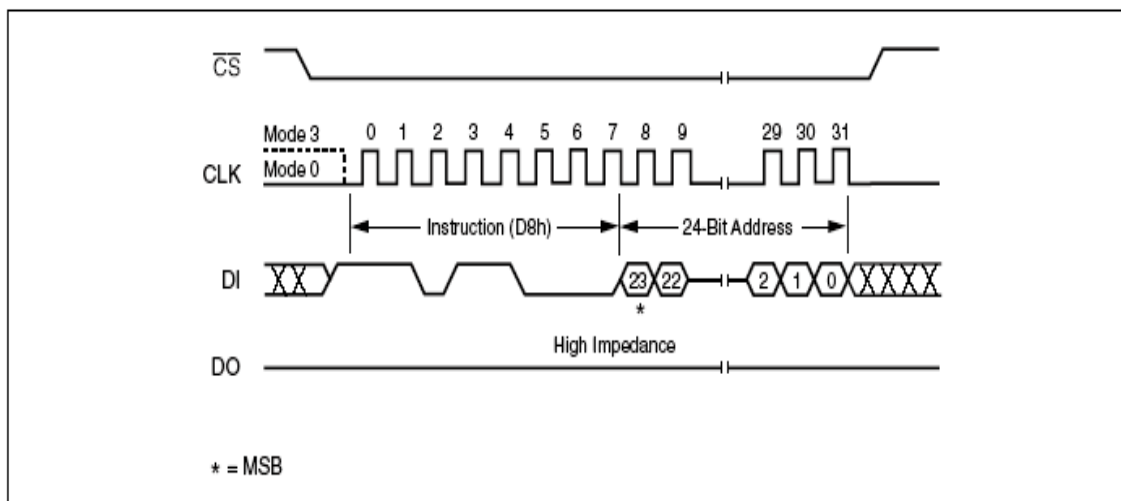

Figure 14 Block Erase Instruction Sequence Diagram
The instruction sequence is shown in Figure 14. Chip Select (CS#) must be driven High after the eighth bit of the last address byte has been latched in, otherwise the Block Erase (BE) instruction is not executed. As soon as Chip Select (CS#) is driven High, the self-timed Block Erase cycle (whose duration is t_{SE}) is initiated. While the Block Erase cycle is in progress, the Status Register may be read to check the value of the Write In Progress (WIP) bit. The Write In Progress (WIP) bit is 1 during the self-timed Block Erase cycle, and is 0 when it is completed. At some unspecified time before the cycle is completed, the Write Enable Latch (WEL) bit is reset.